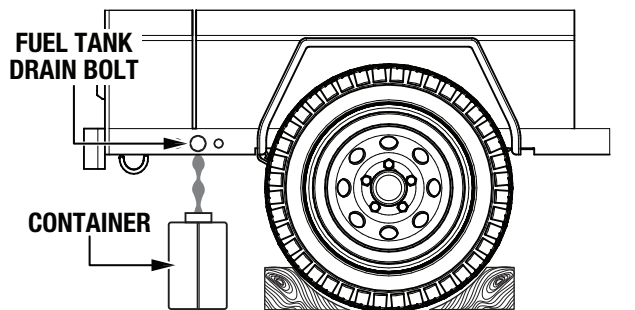

Figure 3. Draining the Fuel Tank
1. Prepare a container (Figure 3) into which to drain the fuel.
2. The fuel drain bolt (Figure 3) is located on the fuel tank side of the air compressor at the rear of the trailer frame. Loosen the bolt to allow any fuel inside the tank to drain into the container. Retighten the fuel drain bolt when finished.